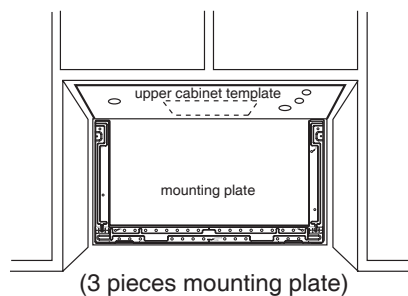

Figure 25
4. Center mounting plate in operating by lining up the plumb line on wall with centerline on mounting plate. Make sure the minimum width is 30 inches and that the top of the mounting plate is located a minimum of 30 inches above the cooking surface. See Figure 25.
5. Measure the bottom of the upper cabinet frame. Trim the edges A, B and C on the upper cabinet template so that the template will fit on the bottom of the upper cabinet. If upper cabinet has a recessed frame, trim the template so it fits inside the recessed area. Align the centerline of the upper cabinet template with the centerline of the mounting plate, then securely tape or tack the upper cabinet template in place. See Figure 25.